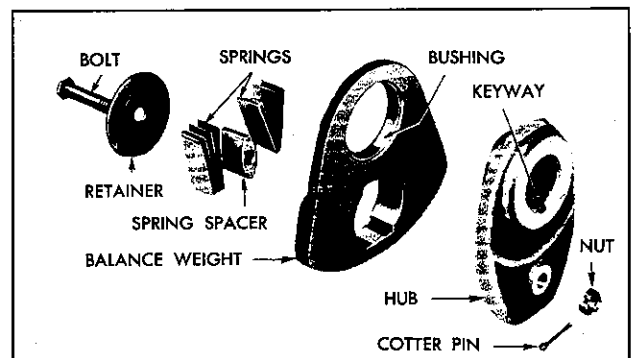

Fig. 6—Details of Front Balance Weight Assemblies for Six Cylinder Engines.
**Disassemble Balance Weight-and-Hub Assemblies. (See Fig. 6.)**